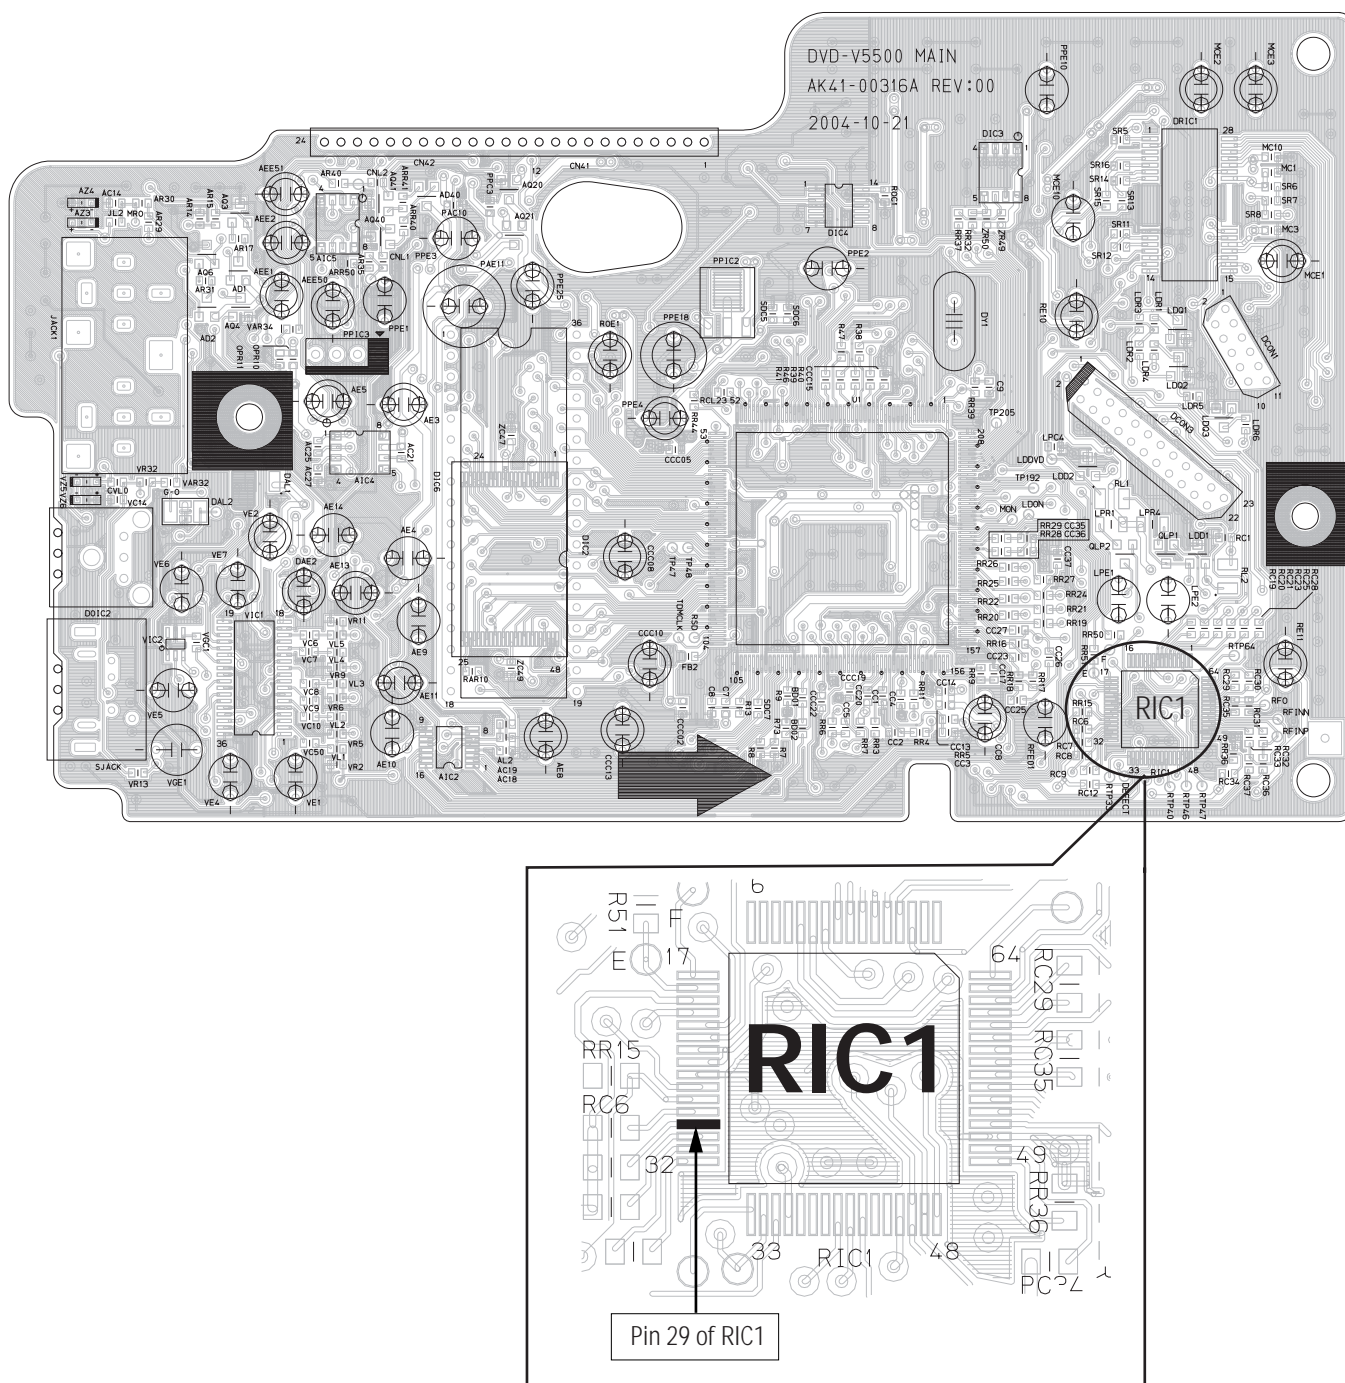

Fig. 3-5 Location of test Point (Main PCB - Top Side)
- 1) Connect an Oscilloscope to the "Pin 29 of RIC1" Test Point (See Fig. 3-5).